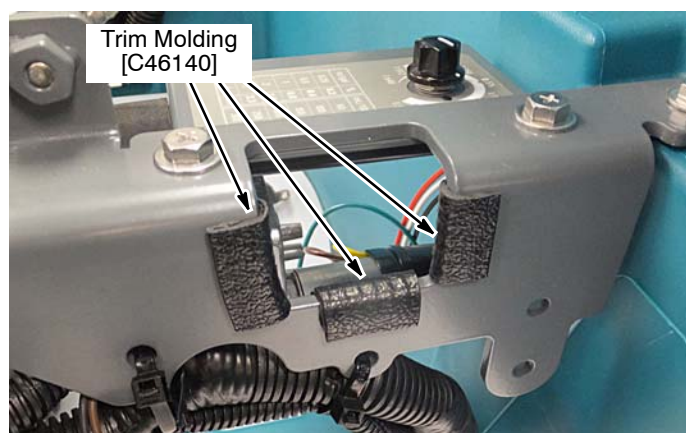

Fig. 31
7. Install three pieces of trim molding to the machine frame as shown (Figure 31).